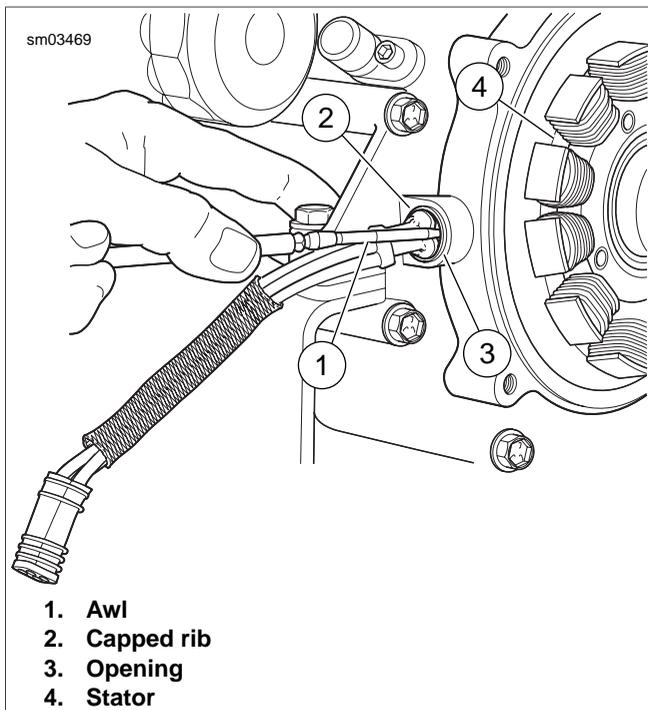

Figure 8-80. Remove Grommet From Crankcase
9. Using point of awl, carefully lift capped rib on grommet away from crankcase and then insert into bore between grommet and casting. See Figure 8-80. Tilt awl slightly, squirting isopropyl alcohol or glass cleaner into opening. Repeat this step at one or two other locations around grommet.